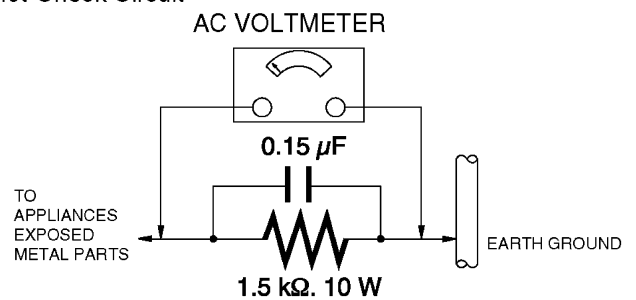

Figure 1
1.3. Leakage Current Hot Check (See Figure 1)
2. Connect a $1.5\text{k}\Omega$, 10 W resistor, in parallel with a $0.15\mu\text{F}$ capacitor, between each exposed metallic part on the set and a good earth ground, as shown in Figure 1.